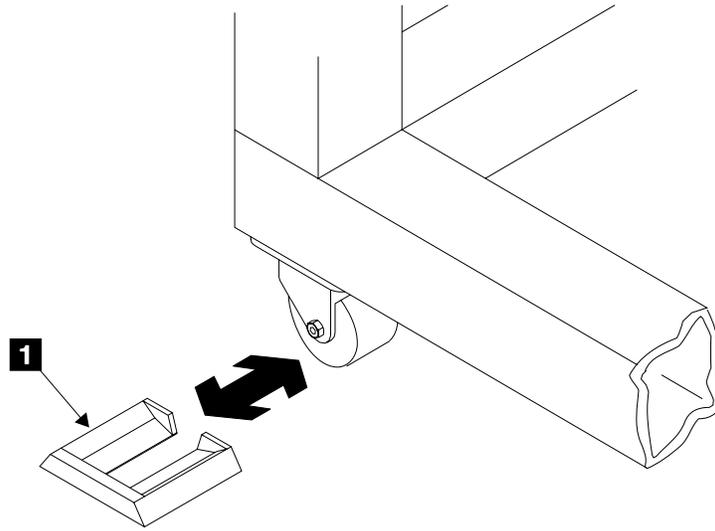

Figure 213. Caster Wedge Locks (S008406m)
- ___ 4. Install the wedge locks **1** [Figure 213] (located in the ship group) on all four casters.